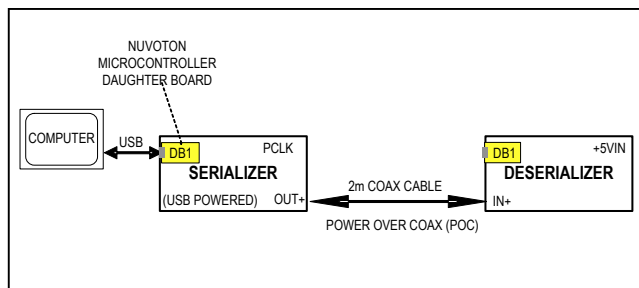

Figure 1. Serializer Test Setup Block Diagram
- 4) Set up the system, as shown in Figure 1.